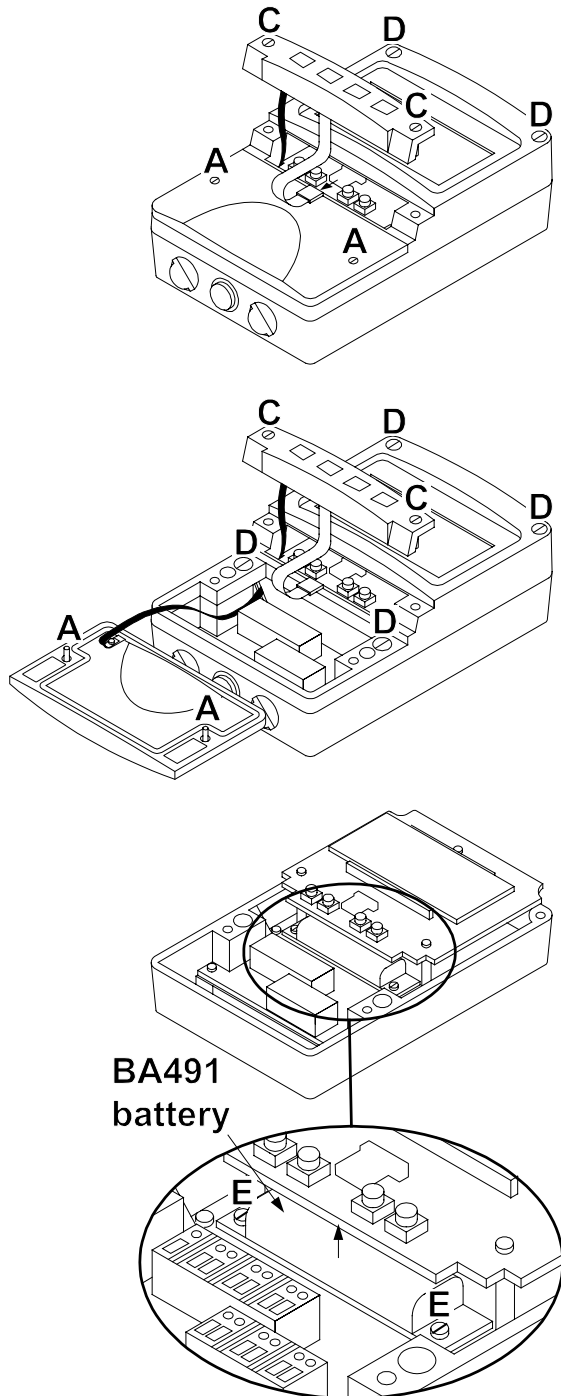

Fig 7 Replacement of internal battery
The discharged battery may be removed and the replacement fitted while the BA344D rate totalisers is installed in the hazardous area. Fig 7 illustrates the replacement sequence:
- d. Remove the two 'E' screws securing the BA491 battery and gently pull the battery away from the instrument printed circuit board – see Fig 7.